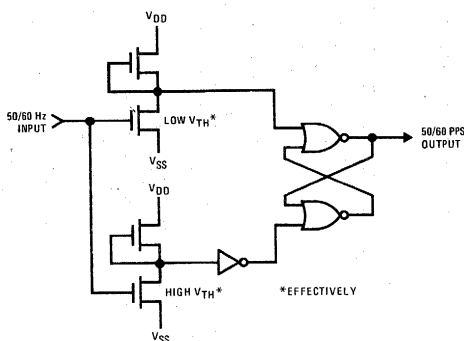
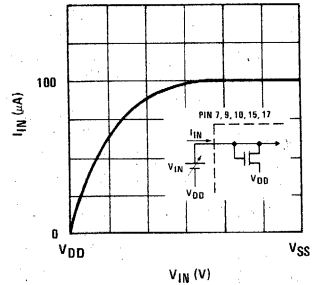

FIGURE 3. 50/60 Hz Input Shaping Circuits
FIGURE 7.  $I_{IN}$  vs  $V_{IN}$  (Typical Input Depletion Load Characteristics)
**50 or 60 Hz Input (pin 8):** A shaping circuit (*Figure 3*) is provided to square the 50 or 60 Hz input. This circuit allows use of a filtered sinewave input. The circuit is a Schmitt Trigger that is designed to provide about 6V of hysteresis. A simple RC filter, such as shown in *Figure 7*, should be used to remove possible line-voltage transients that could either cause the clock to gain time or damage the device. The input should swing between  $V_{SS}$  and  $V_{DD}$ . The shaper output drives a counter chain which performs the timekeeping function.